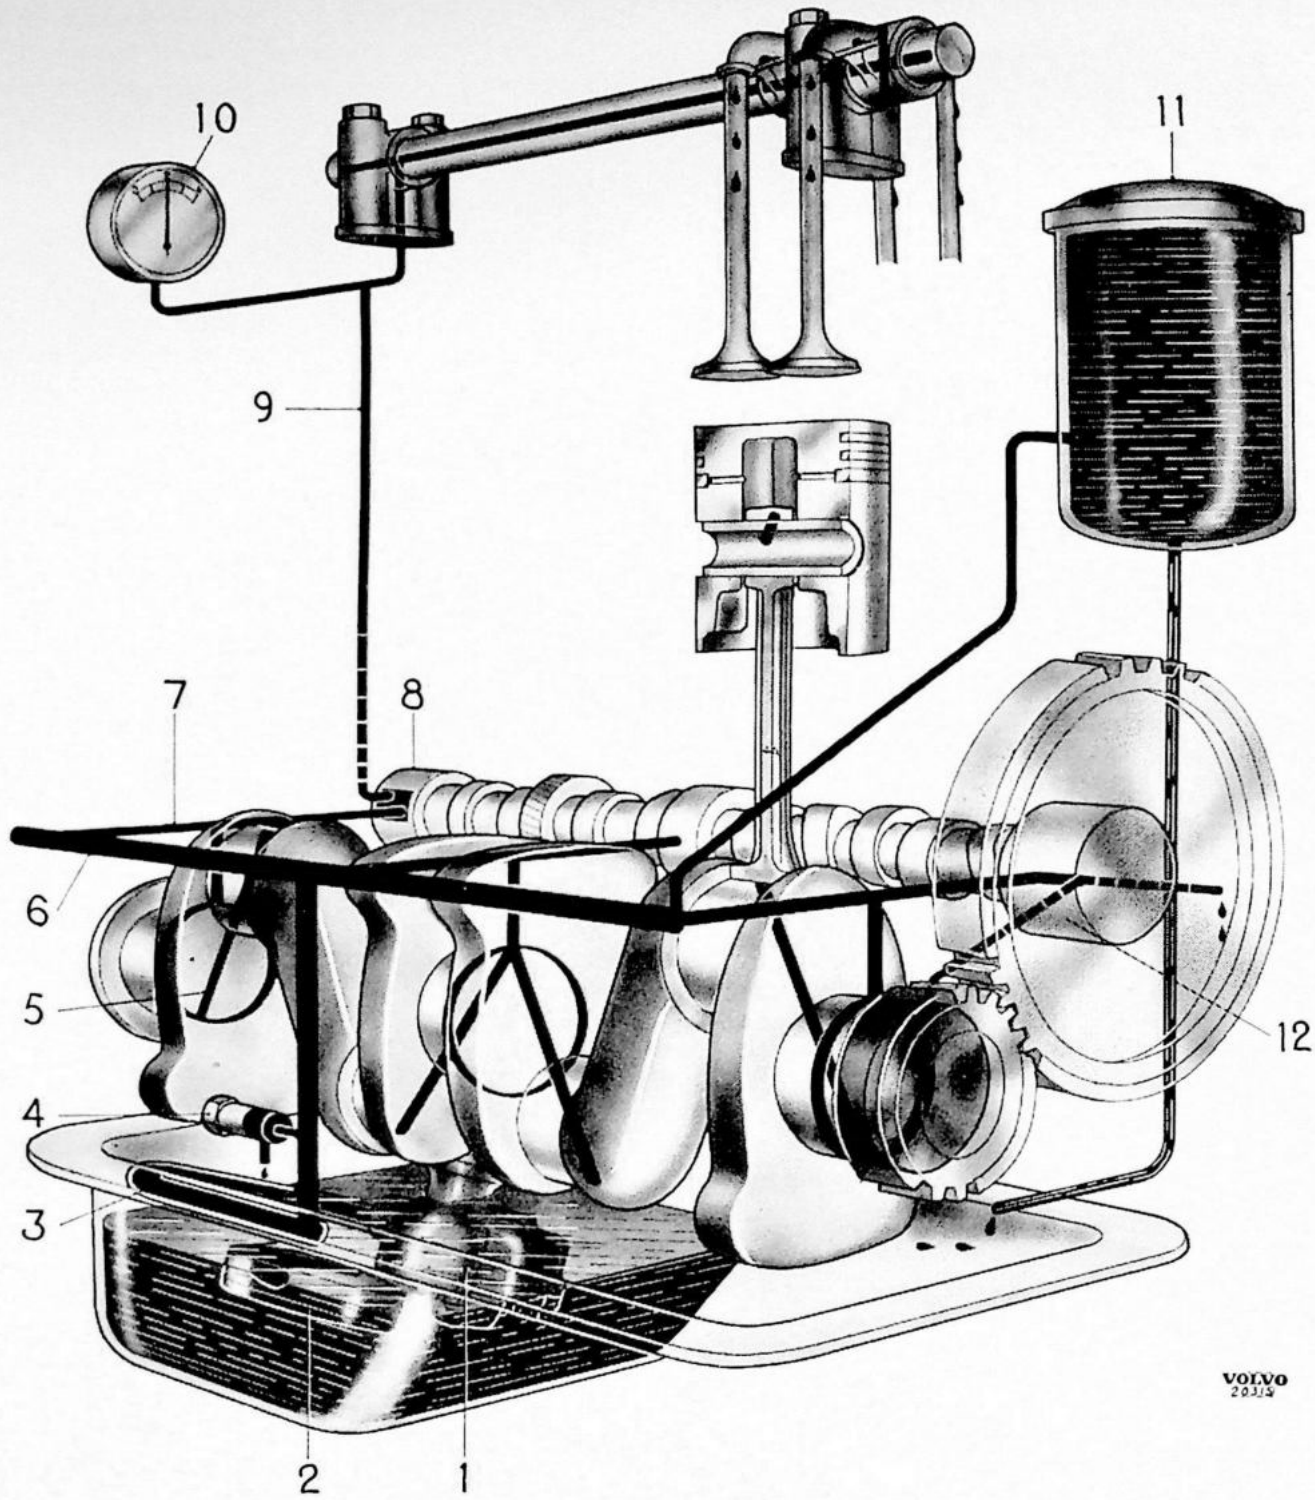

Fig. 5. Lubricating system.
The engine is provided with a pressure lubricating system. A gear pump (1, Fig. 5), draws oil from the oil pan in the lower crankcase through a strainer (2) which removes mechanical impurities before the oil enters the pump. The pump was formerly fitted with a floating strainer, i.e. the strainer was attached to a length of pipe